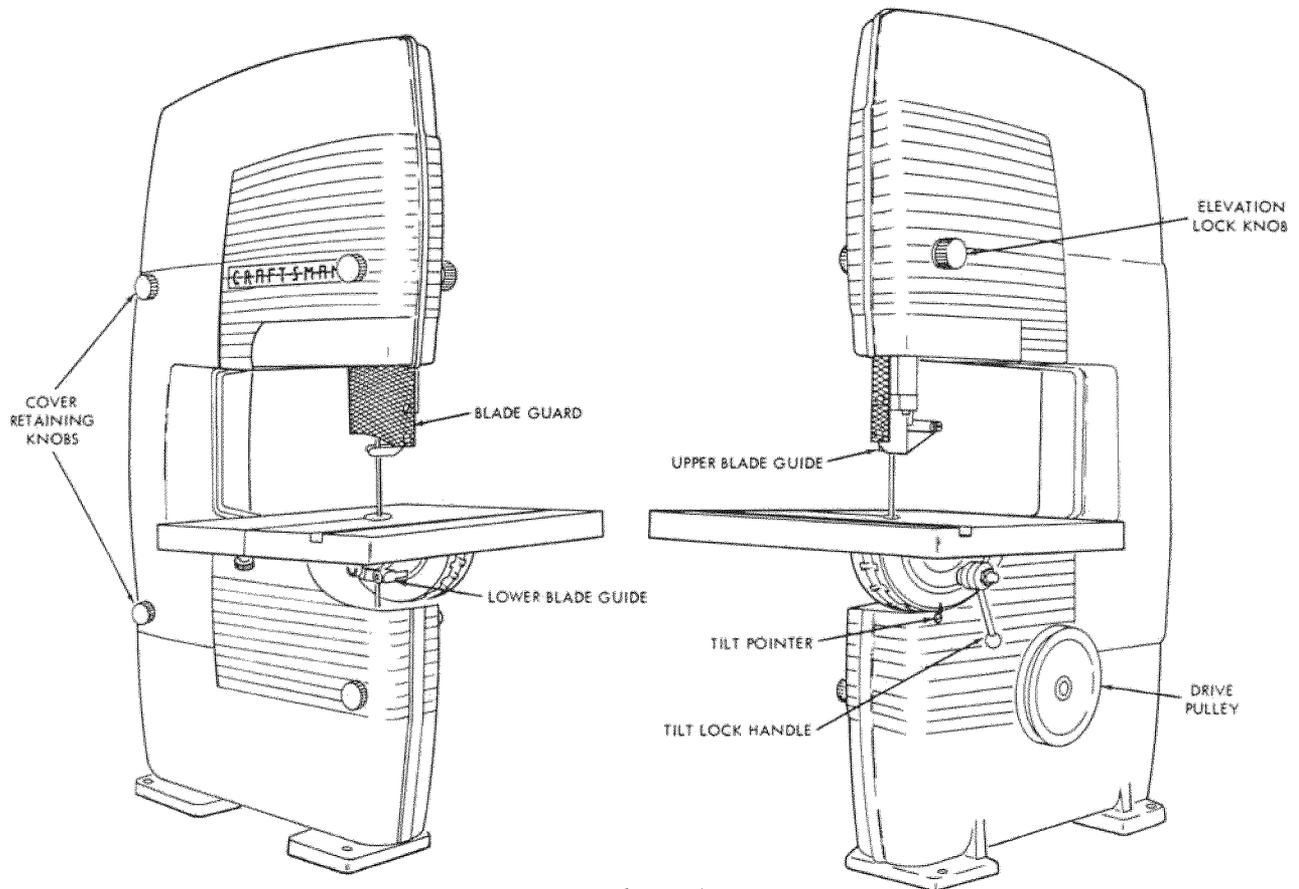
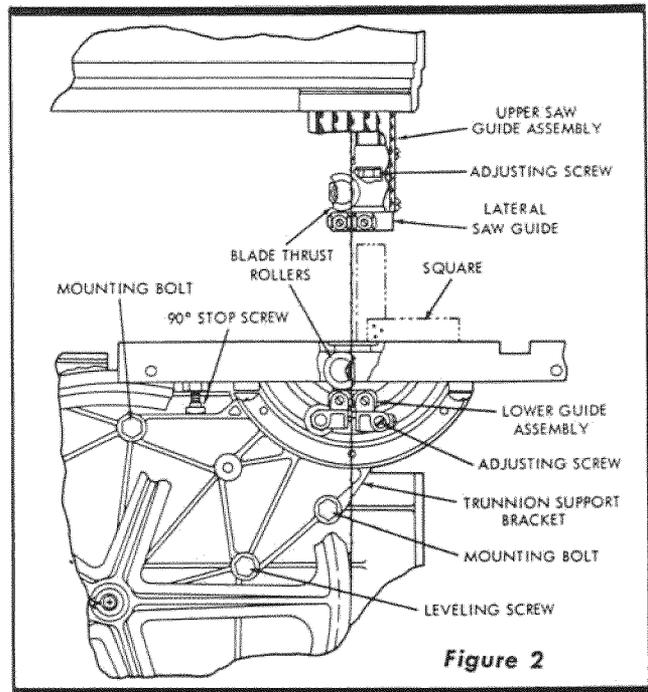

Figure 1
Figure 2
- a. Remove the four cover retaining knobs (1) and slide the cover (2) off the studs. (See figure 1.)
- b. Place the two mounting bolts (47) in the two holes of the trunnion support bracket (46) and mount the table (83) and trunnion support bracket (46) to the frame (82) as shown in figure 2. Leave these two bolts (47) loose enough to allow the entire assembly to be shifted.
- c. Insert the threaded stud (65), through leveling screw (67) and thread it to bottom of tapped hole in the frame.
- d. Place the lock washer (66) over the stud (65) and start the hex nut (32) on the stud. Tighten the nut to a snug fit. Tighten the two mounting bolts (47) to snug fit.
- e. Tilt the table so the 90° stop screw (84) is resting on the trunnion support bracket (46). Lock the table (83) in this position with the table tilt lock handle (79) as shown in figure 1.
- support bracket assembly with the saw blade by adjusting the leveling screw (67) in or out.
- j. Lock the screw (67) in place with the hex nut (32). Finish tightening the two mounting bolts (47).
- l. Correct the squareness of table to side of blade (if necessary), by adjusting the stop screw (84). (See figure 2.)
- b. Adjust the saw guide assemblies so the lateral saw guides (when adjusted) will contact the blade on the solid portion only, not on the teeth or valleys between teeth. (See figure 2.) This is accomplished by loosening the saw guide assembly adjusting screws and moving the saw guide assemblies forward or backward as required. When the adjustment is correct, lock the saw guide assemblies in position.
- f. The table should be square with the blade and, at the same time, the pointer should indicate zero on the scale. If a correction is necessary, it may be made by placing an accurate square on the table surface and against the saw blade. (See figure 2.) Adjust the 90° stop screw until the adjustment is correct.
- g. The table tilt pointer may now be readjusted to the zero mark on the scale by loosening the screw which holds the pointer to the saw. (See figure 1.)
### 1. Controls. The operator should become familiar with all controls before operating the saw. A little time spent in this effort will protect the saw and insure operational safety. (See figures 2 and 4.)
The blade thrust rollers should be lubricated occasionally. (See figure 2, for locations of these rollers.) Other moving and sliding parts such as the guide slide bar (15, figure 5) and table trunnions (52 and 45) may require occasional lubrication to maintain smooth operation.